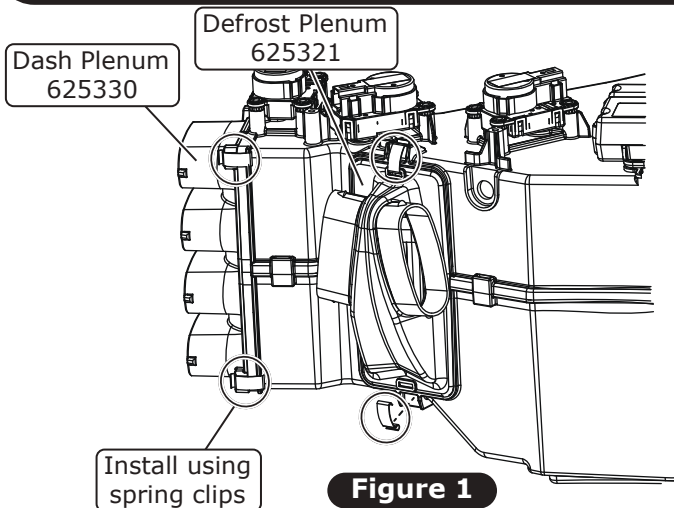

Figure 1
1. Using the provided spring clips, install the defrost, dash and floor plenums as shown in Figures 1 and 2, below.